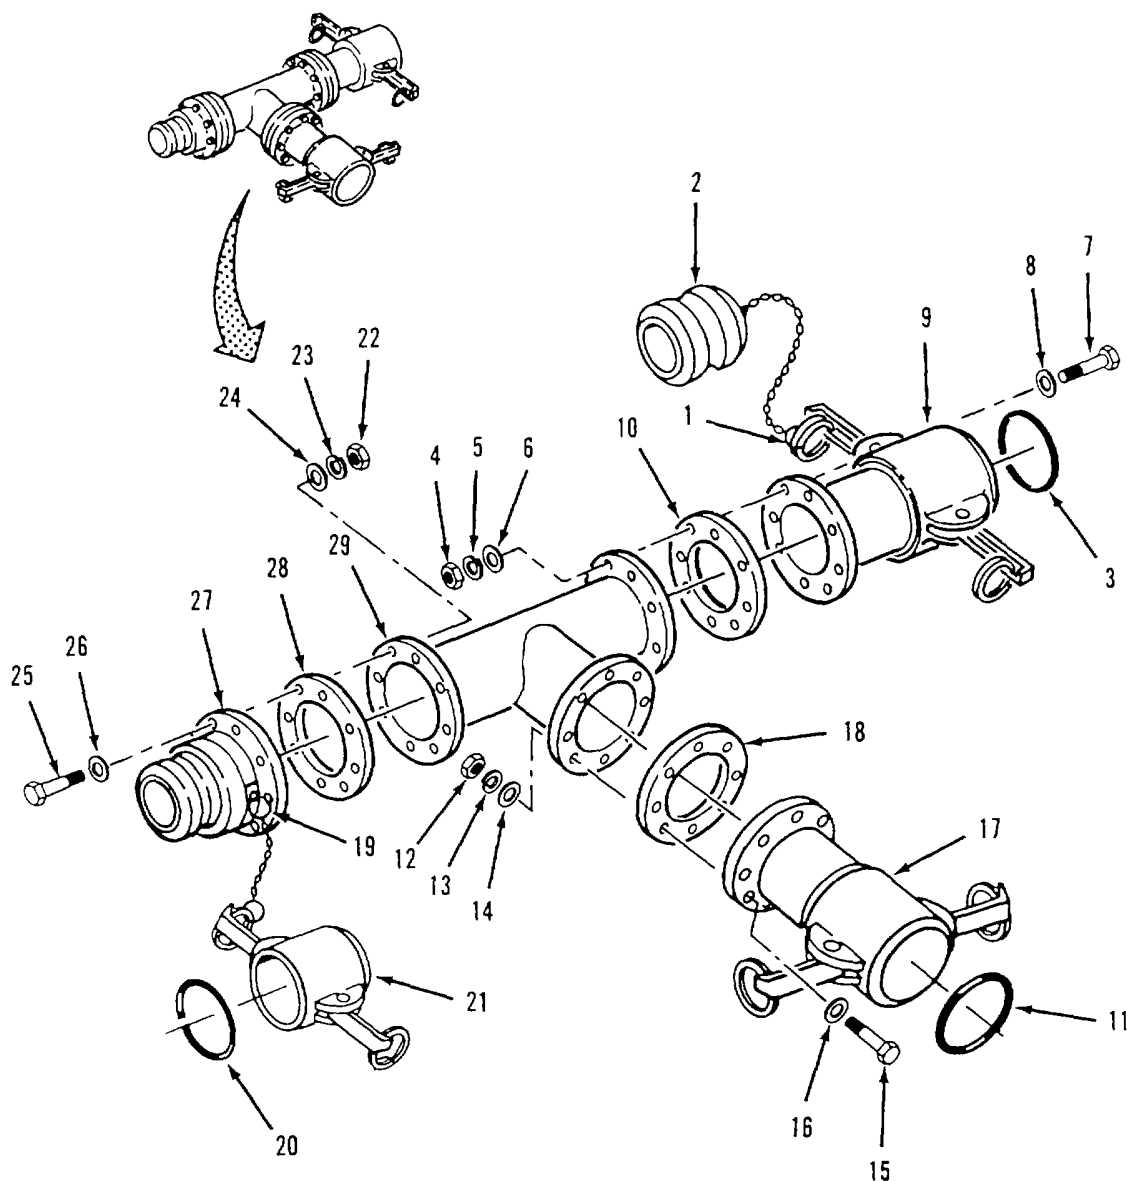

Figure 4-38. Tee Assembly (9115-Y) Disassembly.
a. Disassembly. Refer to figure 4-38.
- (1) Disconnect ring (1) from female coupling (9) and remove plug (2).
- (2) Remove gasket (3) from female coupling (9).
- (3) Remove eight nuts (4), lockwashers (5), flat washers (6) and screws (7) and flat washers (8).
- (4) Separate female coupling (9) and gasket (10) from tee (29).
- (5) Remove gasket (11) from female coupling (17).
- (6) Remove eight nuts (12), lockwashers (13), flat washers (14), screws (15) and flat washers (16).
- (7) Separate female coupling (17) and gasket (18) from tee (29).
- (8) Disconnect ring (19) from male coupling (27) and remove cap (21).
- (9) Remove gasket (20) from cap (21).